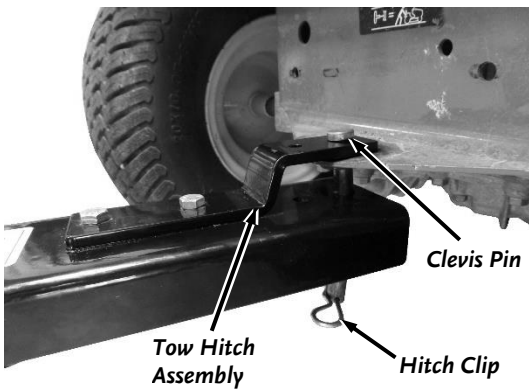

Figure 12
1. Lift the Chipper Tow Bar onto the Tow Vehicle Hitch and install the Clevis Pin and Hitch Clip to secure it (**Figure 12**).